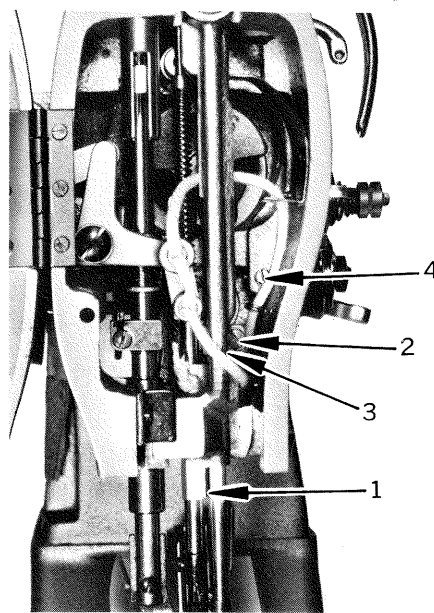

Fig. 18
4. Holding the bottom of the needle bar rock frame (1, Fig. 18), move it as may be required to get the correct position to the feeder.
1. Loosen the screw (2, Fig. 18)
2. Move the setting position of the needle bar and needle bar connecting stud (3, Fig. 18) to get the correct position.
2. Loosen the screw (4, Fig. 18) slightly.